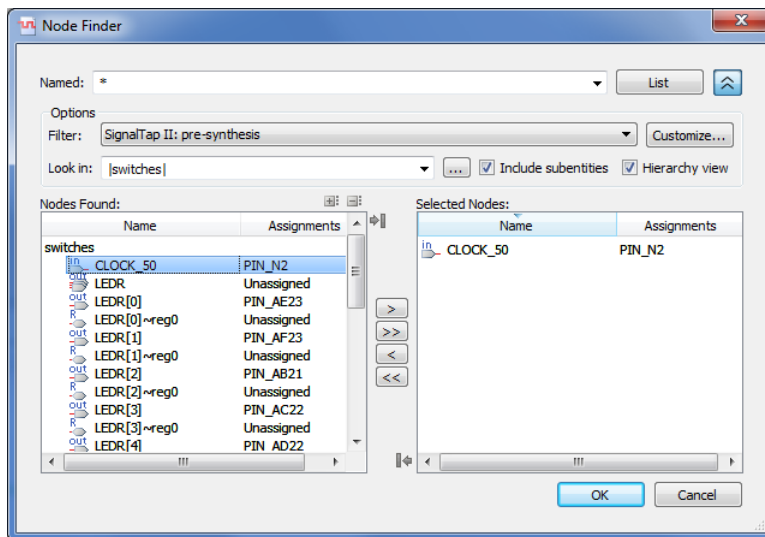

Figure 9. Setting CLOCK_50 as the clock for the SignalTap instance on a DE-series board.
- Before the SignalTap analyzer can work, we need to specify what clock is going to run the SignalTap module that will be instantiated within our design. To do this, in the Clock box of the Signal Configuration pane of the SignalTap window, click ..., which will again bring up the Node Finder window. Select List to display all the nodes that can be added as the clock, and then double-click CLOCK_50, which results in the image shown in Figure 9. Click OK.